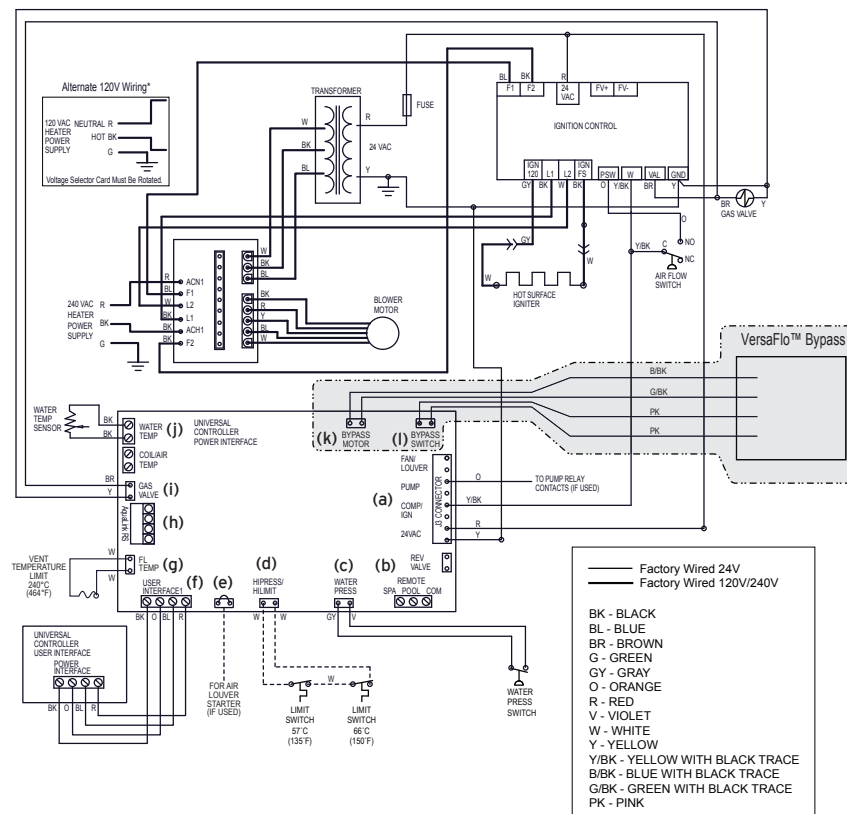

Figure 6. Wiring Diagram
1. Connect the 2 pin GR/BK and B/BK at the board position Bypass Motor (J21). See Figure 6 (k).
2. Connect the 2 pink wires to the 2 terminal connector at board position Bypass Switch (J22) polarity does not matter. See Figure 6 (l).